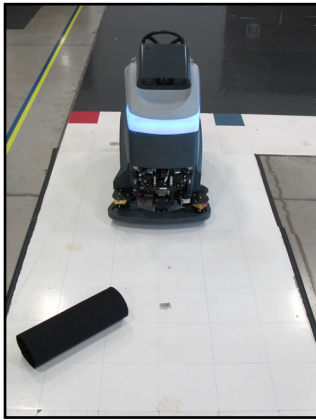

Figure 25: Right
11. Place the large target cylinder approximately 1 meter (3 feet) in front of the machine as shown in Figure 25: Right.